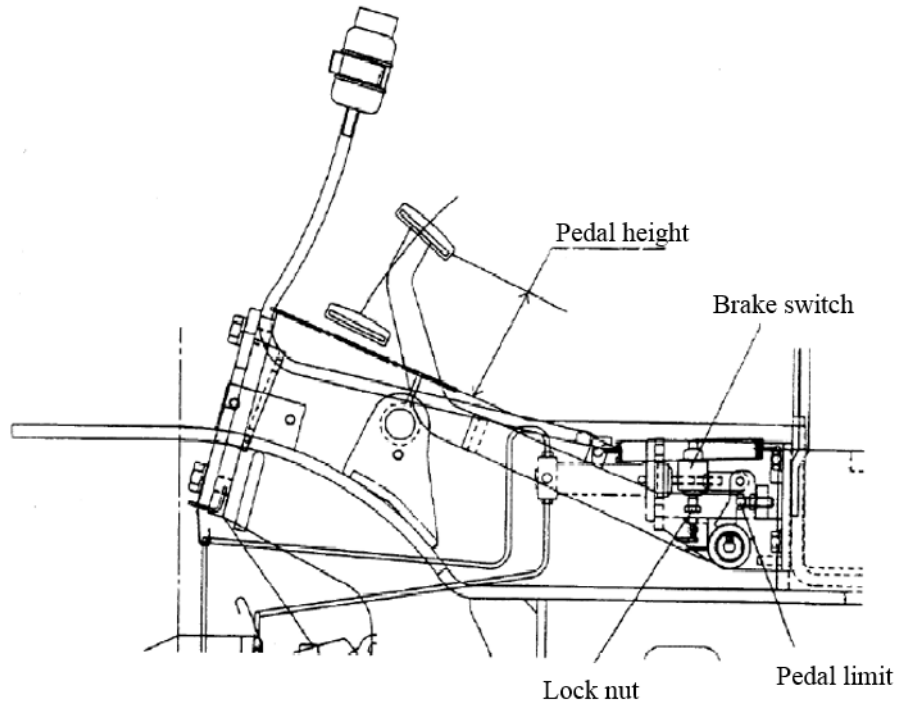

Fig. 2-26
(1) Make the push rod short.
(2) Adjust the stopper bolt and the height of the pedal. (See Fig. 2-26)
(3) Press the brake pedal. Pull the push rod out until its front end comes into contact with the master cylinder piston.
(4) Tighten the push rod locking nut.